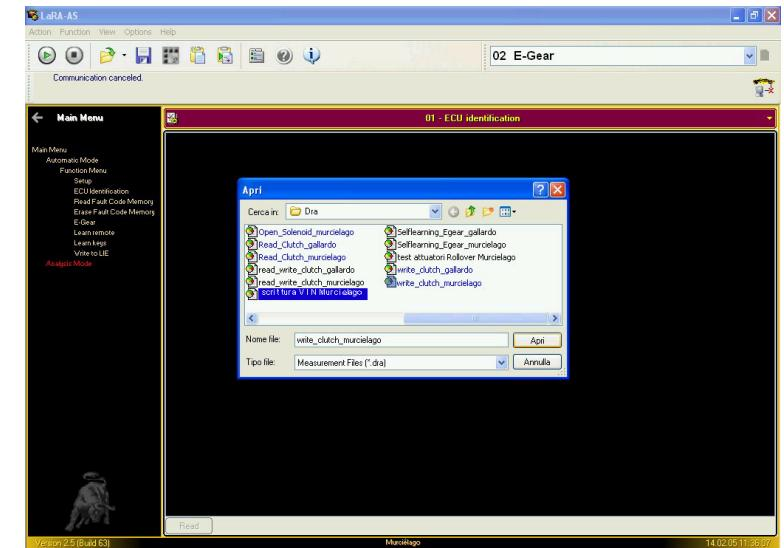

Fig.17
- Select the **measurement file "writing VIN murcielago"** (Fig.17)